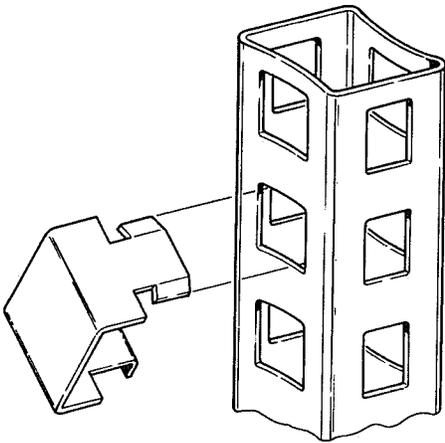

Figure 21. Unistrut Type Racks and RC-100 Rack Clips
- (1) Determine height of required splice support, diagonally insert top tab of bracket into slot. Rotate bracket and drop lower tap into slot. Push down on bracket to lock into rack. (Figure 21) Repeat for opposite Unistrut rack.